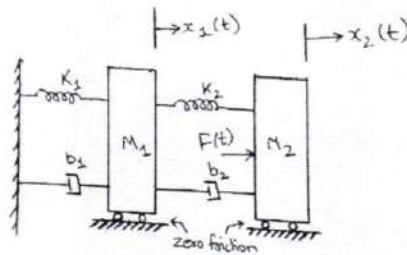

Figure 5: Mechanical system
- b. Find the transfer function, $G(s) = X_1(s)/F(s)$, or the translational mechanical system shown in figure 5. [4]